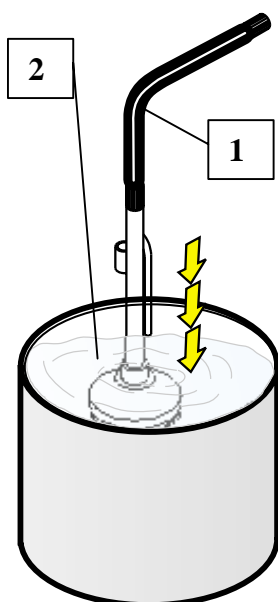

Fig.32
2) Insert the suction pipe inside a bowl containing some solvent (fig. 32).